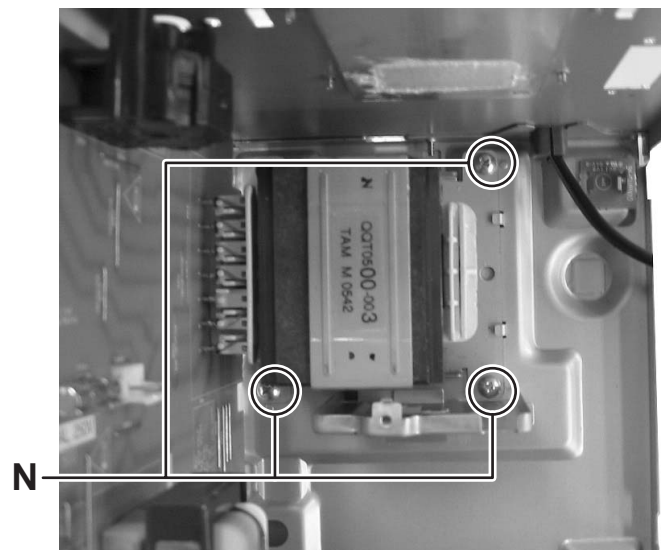

Fig.11
- (4) Remove the three screws **N** attaching the power transformer. (See Fig.11)
**(See Fig.11 to 13)**
- (1) Remove the yellow wire from solder part **q** of the CD servo board from upper side of traverse mechanism. (See Fig.11)
- (2) Remove the white wire from solder part **r** of the CD servo board. (See Fig.11)